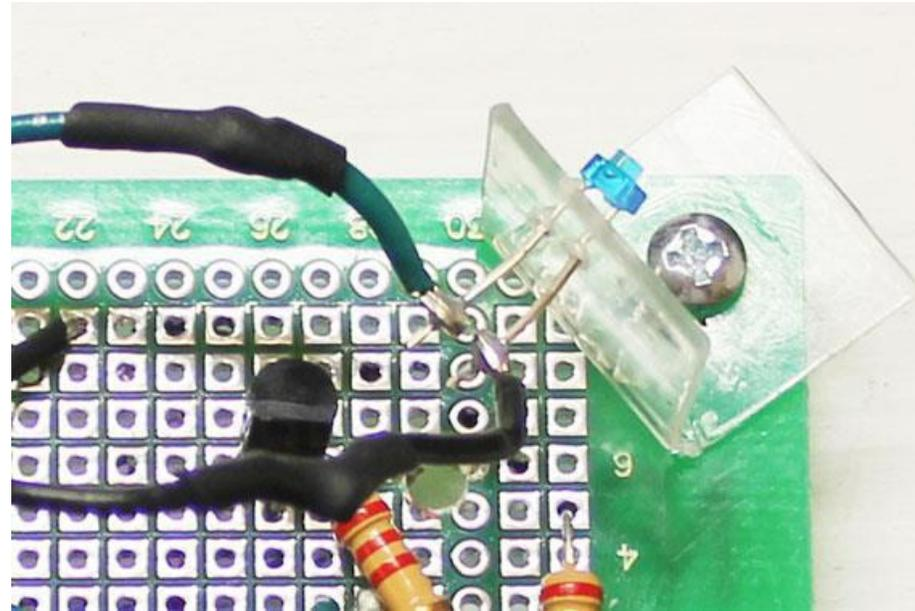

Figure 29
89. Mount the remaining L bracket to the left forward corner of the board (Figure 29). This bracket has two small holes for the wires of the IR emitting diode D5. Insert the diode into the bracket. Bend the green and black wire ends into U-shapes and tighten them to the proper wires of D5. The black wire should be connected to the short wire (cathode) and the green wire to the long wire (anode). Solder these connections.